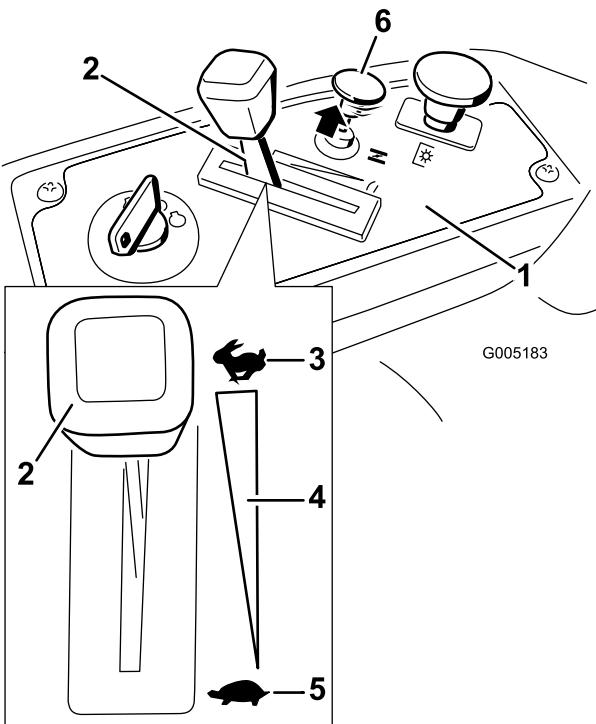

Figure 11
3. Pull up on the Choke control before starting a cold engine (Figure 11).
3. Turn the ignition key to Off (Figure 11) and remove the key.